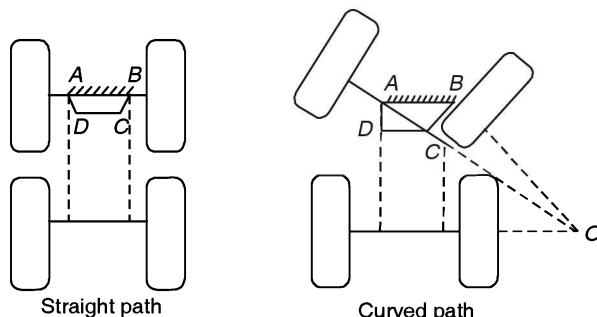

FIGURE 7.19 Ackermann steering gear.
- (b) *The mechanism of the Ackermann—Steering gear:* In this inversion of the four-bar chain, two short links are equal while the long links AB and CD are unequal in length (Figure 7.19). When car is moving along a straight path the two long links AB and CD remain parallel. However, when a car moves along a curved path, the links move up to such a position due to the lengths of the links that the axes